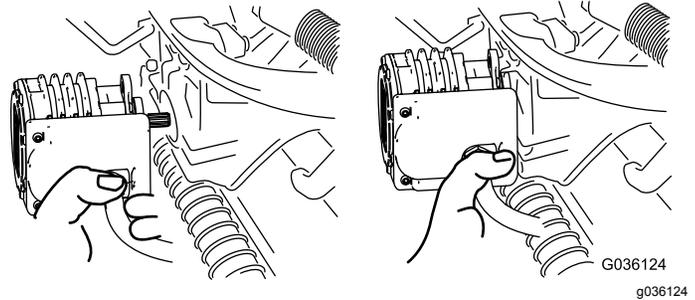

Figure 56
4. Move the motor to the storage location on the front of the suspension arm (Figure 56).